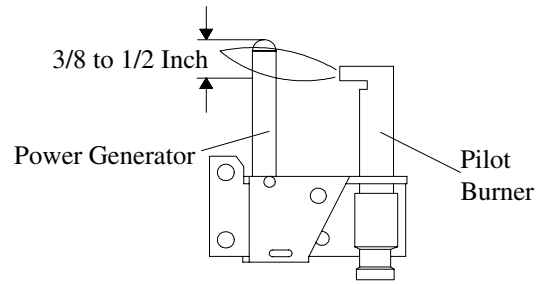

FIGURE 6. PILOT BURNER ADJUSTMENT
- Adjust pilot key to provide properly sized flame. See **Figure 6** for properly sized flame.